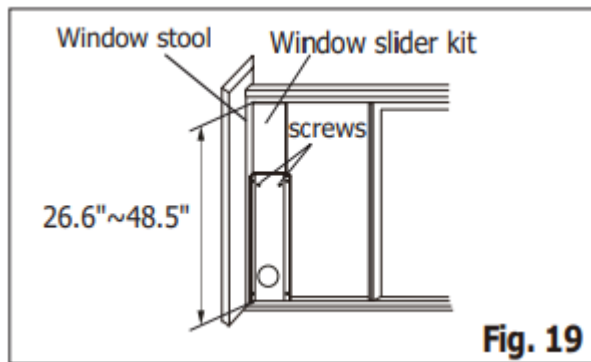

Fig. 19
2. Open the window sash and place the window slider kit on the window stool. See Fig.19. Attach the window slider kit to the window stool. Adjust the length of the window slider kit according to the height of window. Screw down the two screws on the window slider kit. See Fig.19. Cut the adjustable window slider kit if the height of window is less than 26.6 inches (Fig. 14).